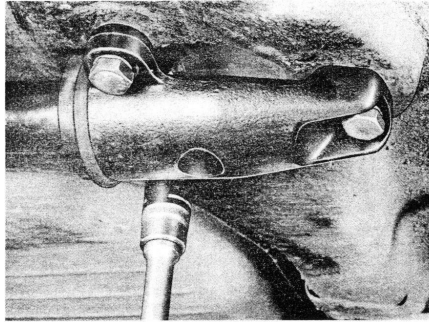

Fig. 54
3. Prior to assembly, coat the rubber bushing with glycerine paste and make sure that the rubber bushing is not pinched along the sides between the bracket cap and bracket at time of tightening. It is of advantage to lightly tighten the forward bolt first, and then install the rear bolts. Torque the bolts to 4,7 mkg (34 lb/ft). (see Fig. 54).